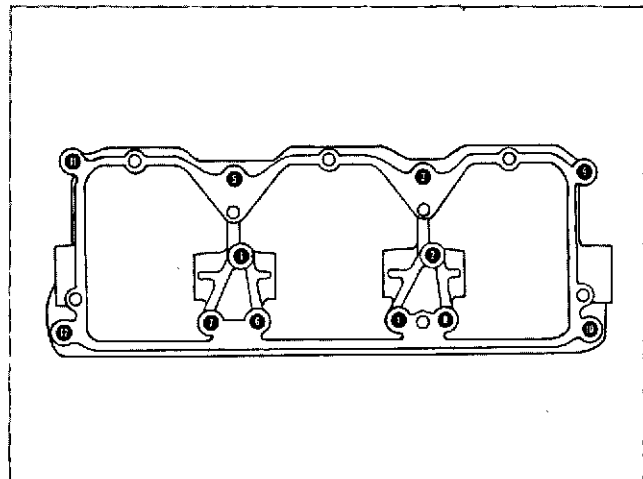
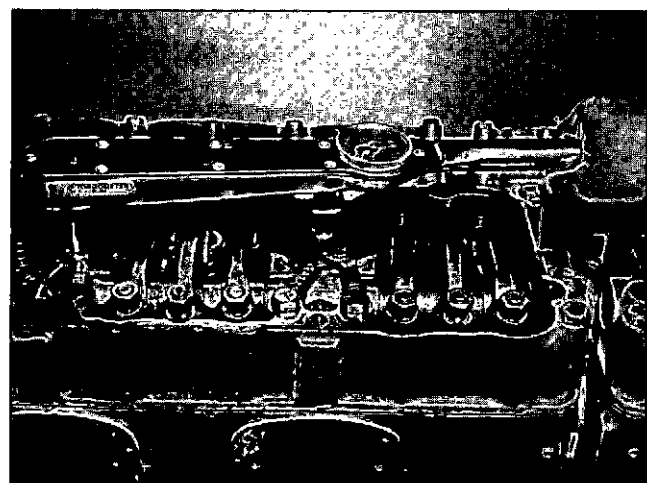

Fig. 14-1-68, V41451. Rocker housing capscrew torquing sequence
Fig. 14-1-69, V414164. Torquing rocker housing capscrews
13. Install capscrews; tighten rocker housing capscrews in sequence shown in Fig. 14-1-68 to 55 to 65 ft-lb [7.6065 to 8.895 kg m] with a torque wrench. Fig. 14-1-69.